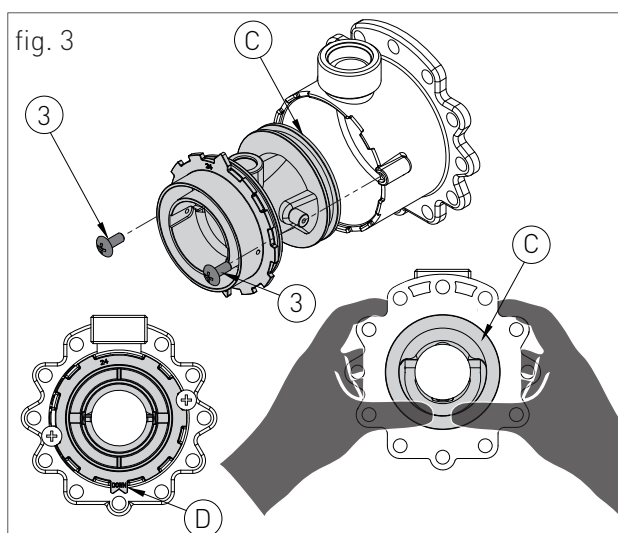

fig. 3
- › remove the two screws '3' (fig.3) and apply pressure on the rear side of venturi 'C' (fig.3);
- › replace the body venturi with the one suitable for the type of supply gas (cod. 30-00225 for Natural gas / cod. 30-00226 for Universal LPG) and make sure the tooth 'D' (fig.3) is adjusted downwards on the aluminium ring nut (see fig.3);